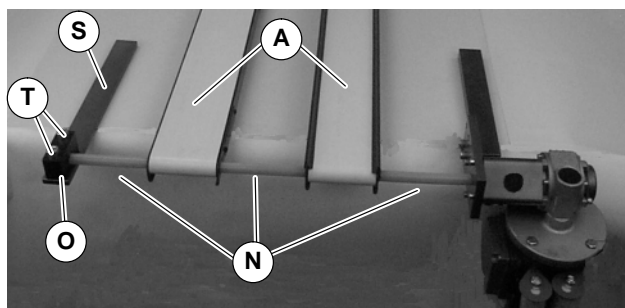

Figure 9
13. Remove screws (T of Figure 9) and remove bearing block (O).
14. Slide hex shaft through conveyors (A of Figure 9) and shaft cover pieces (N) and into flex coupling.
15. Attach bearing block (O of Figure 9) to bearing support bar (S) with screws (T). Tighten screws (T) to 45.5Nm.